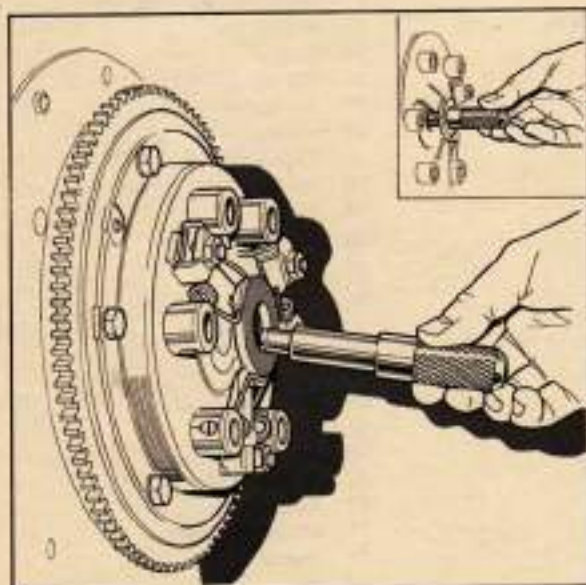

Figure 2 Centralising the clutch
- 5 Using tool No. RT 7485 as a centraliser, or a primary gear from a gearbox, replace the clutch disc and pressure plate assembly on the flywheel, securing evenly with six set screws and lockwashers to a torque of 1.66-2.07 kg m (12-15 lb ft) see **Figure 2**. The pressure plate assembly should be tapped with a hide mallet to ensure that it is square on the flywheel.